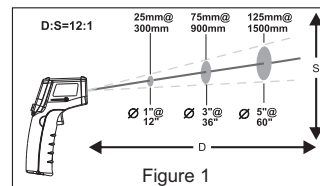

Figure 1
1. When taking measurement, pay attention to the Distance to Spot Size. As the Distance (D) from the target surface increases, the spot size (S) of the area measured by the unit becomes larger. The Distance to Spot size of the unit is 12:1. (Figure 1)